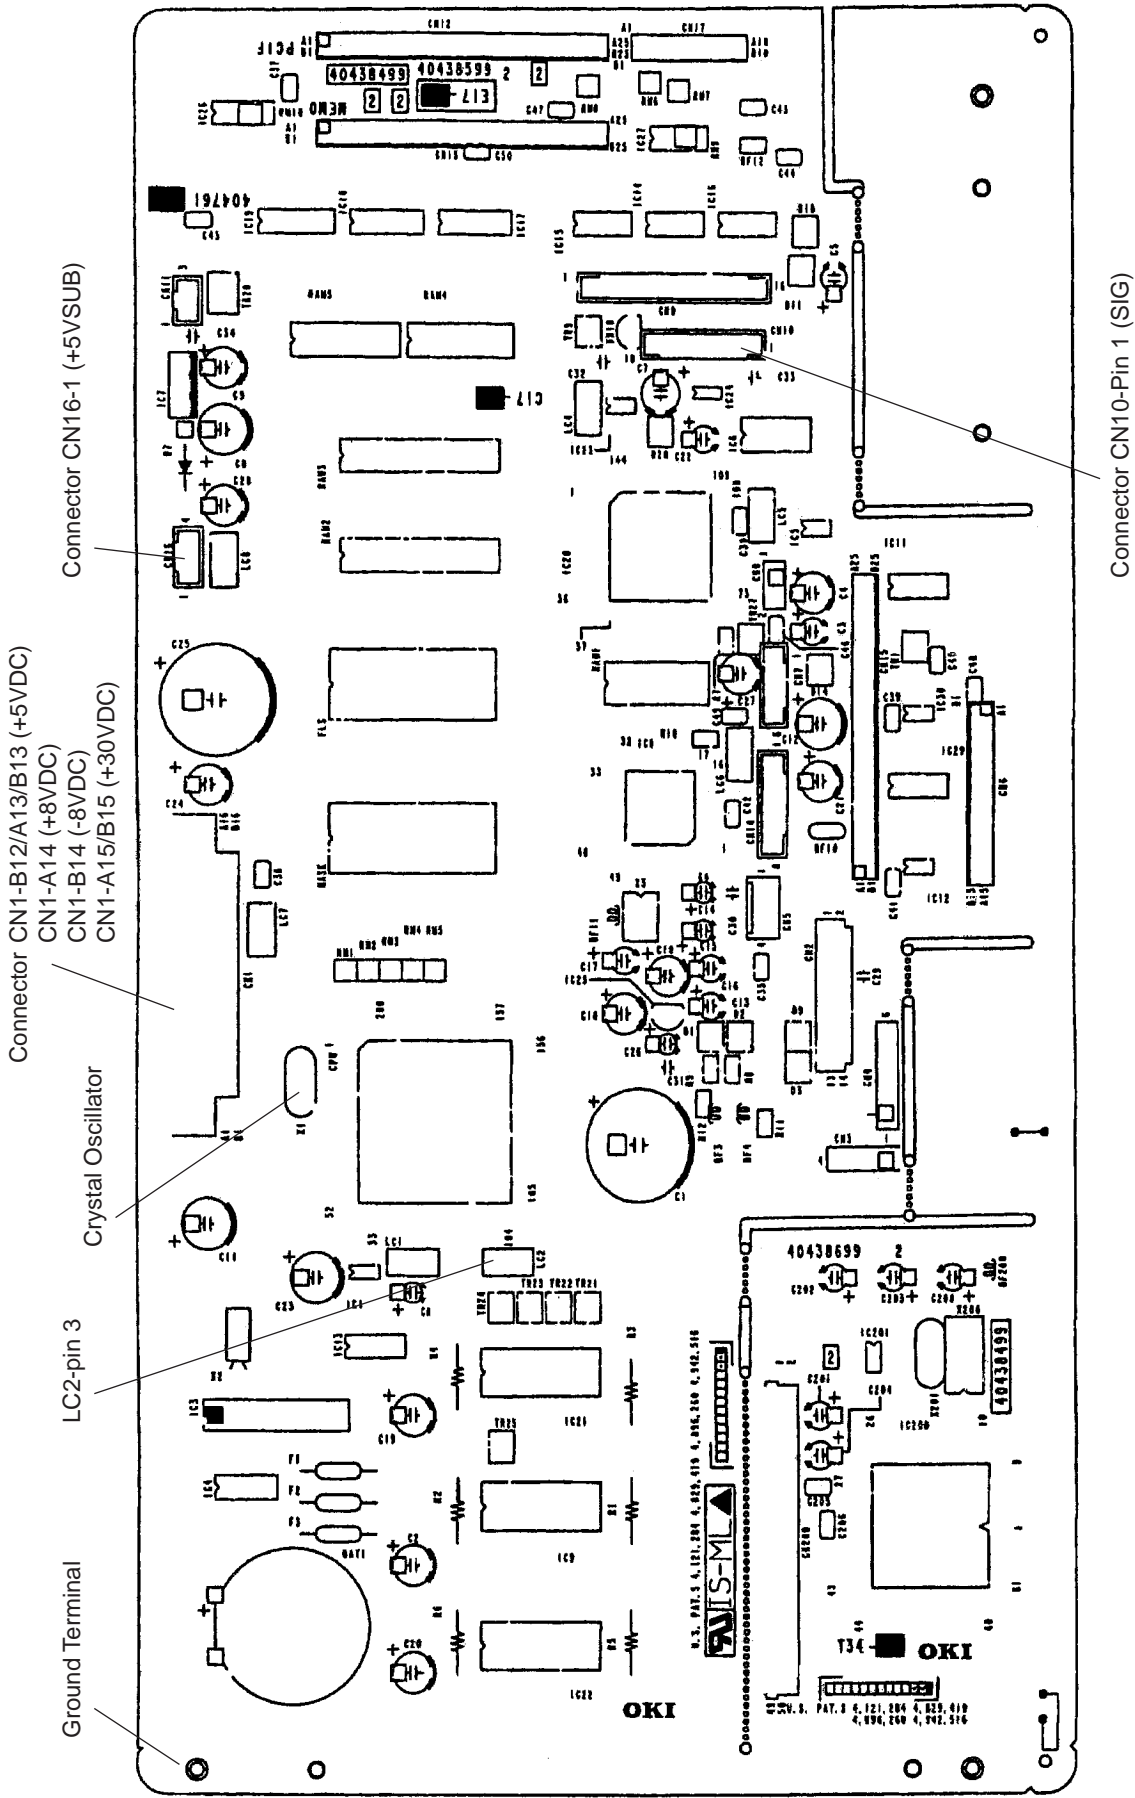

Figure 5.2.1 Measurement Points on E17 Board
- 4) Connect the frequency counter (for clock frequency), digital voltmeter (for power voltage) and Oscilloscope (for SIG signal). See figure 5.2.1.